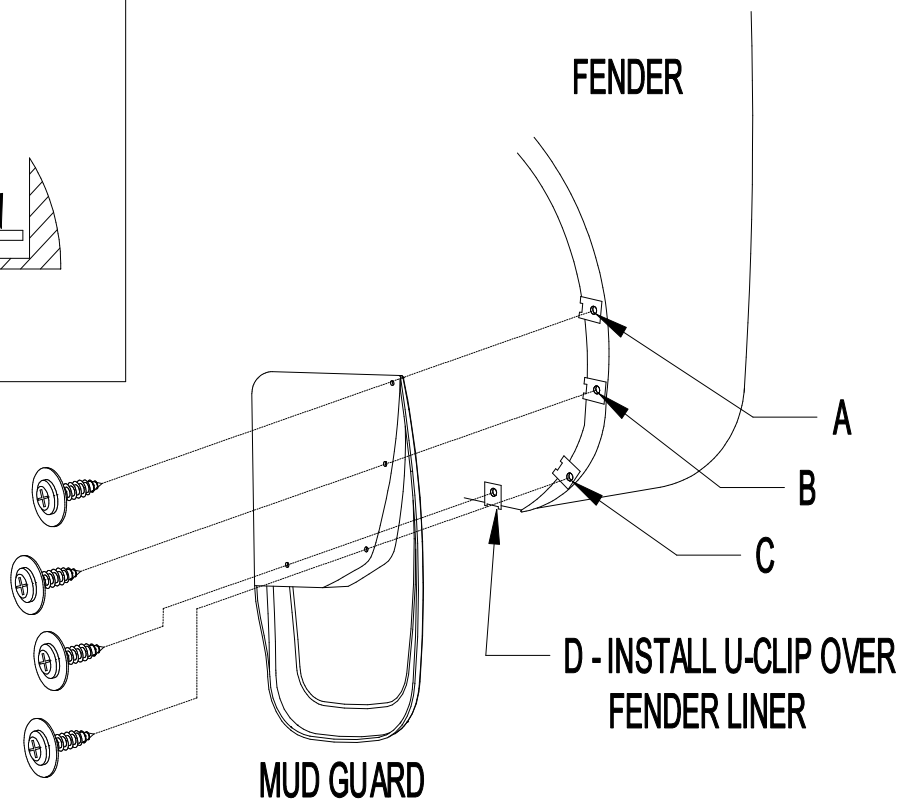

Figure 1
4. Install a U-clip at location D, over the fender liner and align with drilled hole (Figure 1 and 2).
5. Install U-clips at location A, B, and C over the fender and align with drilled holes (Figure 1 and 2).